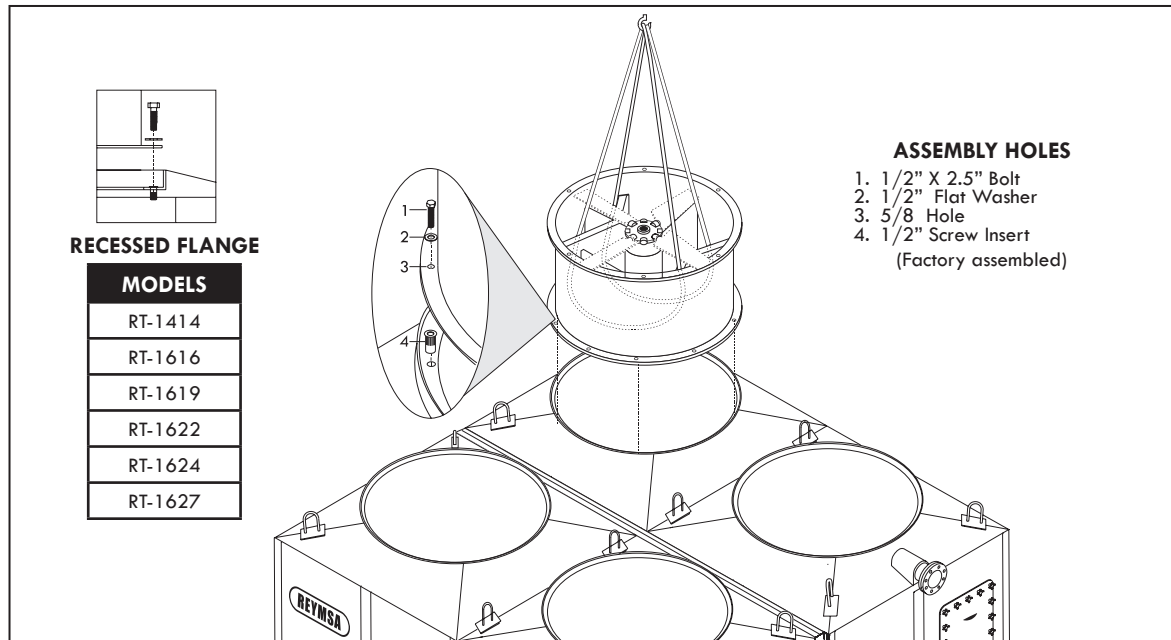

Figure A-32: Fan Duct installation for a Quadruple Fan Tower
- O.** Then cradle/straddle the fan support with the straps (as shown in Figure A-32) so you can lift the fan duct with a crane and assemble it.
- P.** Identify each fan duct, they are labeled with a number on the inside of the lower edge. For a correct installation, this number must match the number on the distribution manifold of the corresponding body section. Place fan duct 1 on the corresponding receiving flange on top of body section 1 of the Tower; make sure the bolt holes and the marks inside the fan duct and receiving flange are aligned (Figure A-32 and A-33). Secure it with the stainless steel nut and bolt sets supplied by REYMSA.